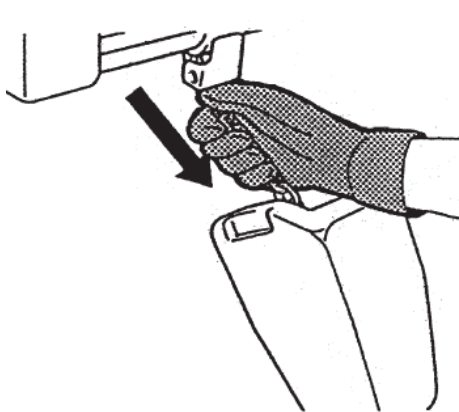

fig.12
1. Insert the end on the chain stop side into the chain collector. (fig.12)